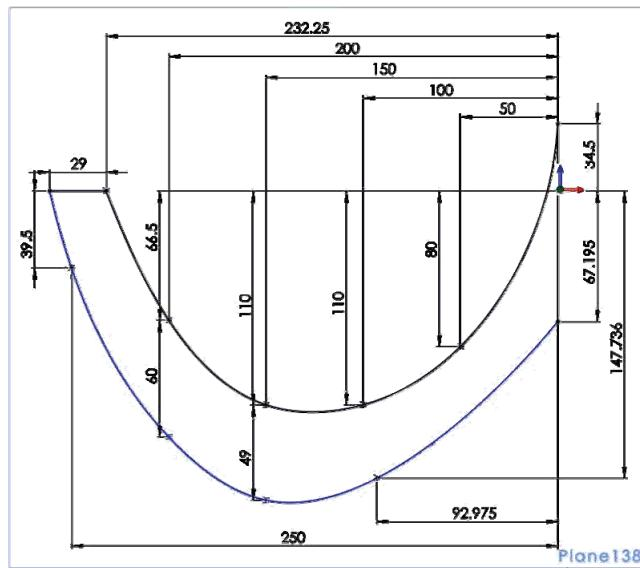

Fig. 3.8
**10 Schițare contur 3:** comanda Sketch- Fig. 3.8 – Selecție plan 138 / Schițare contur / .
**10 Sketching of the 3 contour:** the Sketch command - Fig. 3.8 – Select 138 Plane / Sketch the contour / .